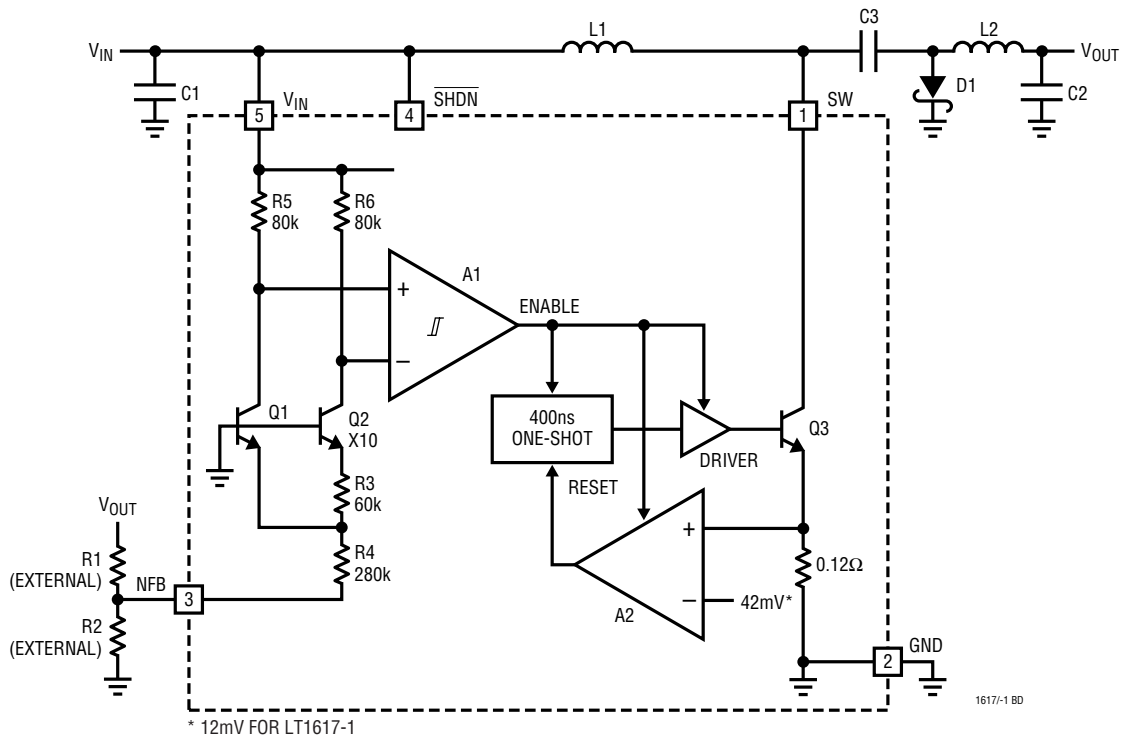

Figure 1. LT1617 Block Diagram
**NFB (Pin 3):** Feedback Pin. Set the output voltage by selecting values for R1 and R2 (see Figure 1):
The LT1617 uses a constant off-time control scheme to provide high efficiencies over a wide range of output current. Operation can be best understood by referring to the block diagram in Figure 1. Q1 and Q2 along with R3 and R4 form a bandgap reference used to regulate the output voltage. When the voltage at the NFB pin is slightly below  $-1.23\text{V}$ , comparator A1 disables most of the internal circuitry. Output current is then provided by capacitor C2, which slowly discharges until the voltage at the NFB pin goes above the hysteresis point of A1 (typical hysteresis at the NFB pin is  $8\text{mV}$ ). A1 then enables the internal circuitry, turns on power switch Q3, and the current in